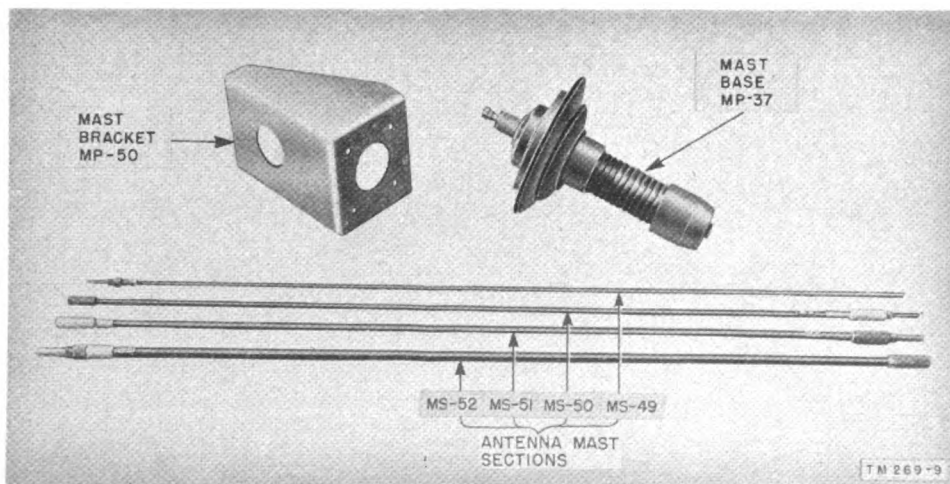
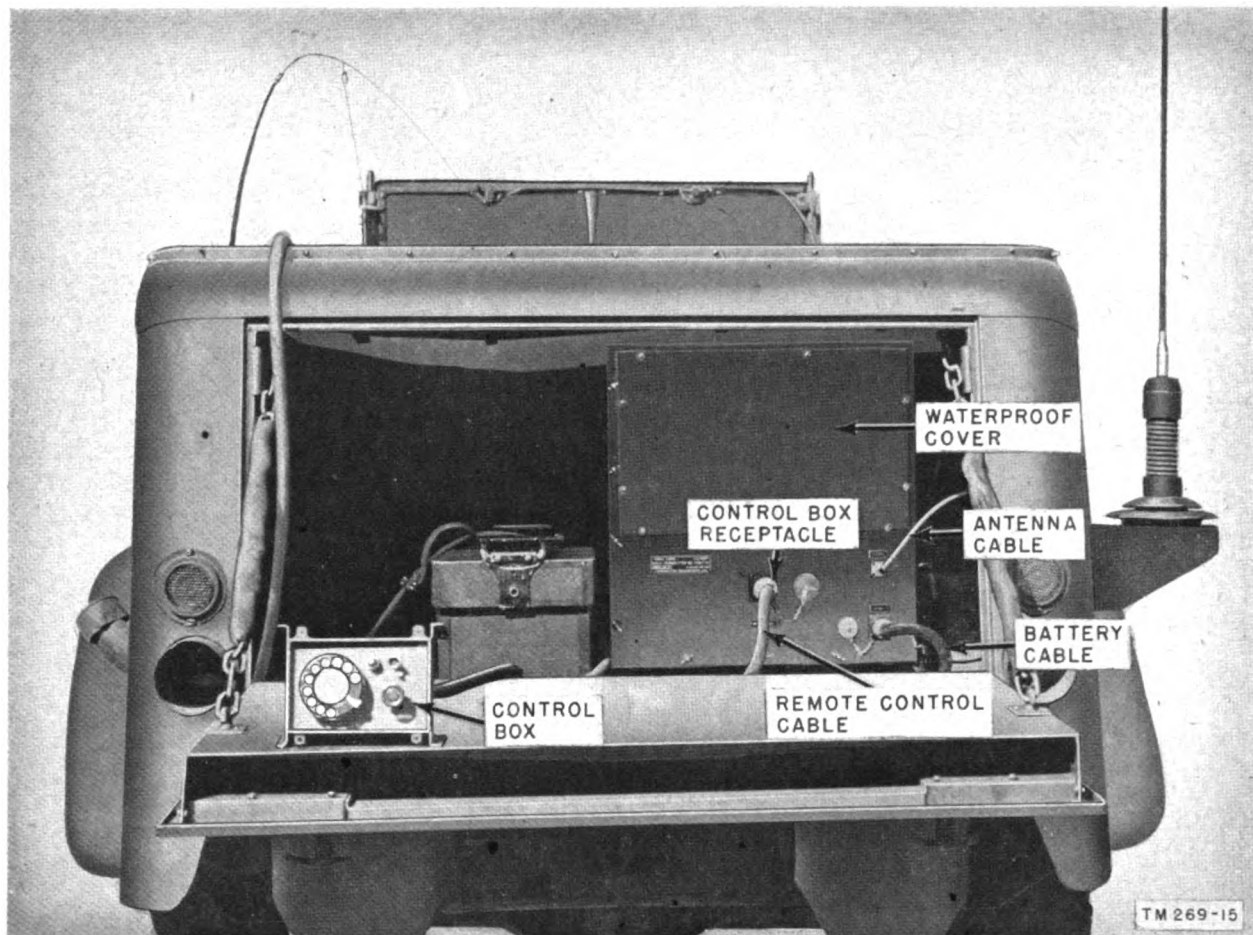
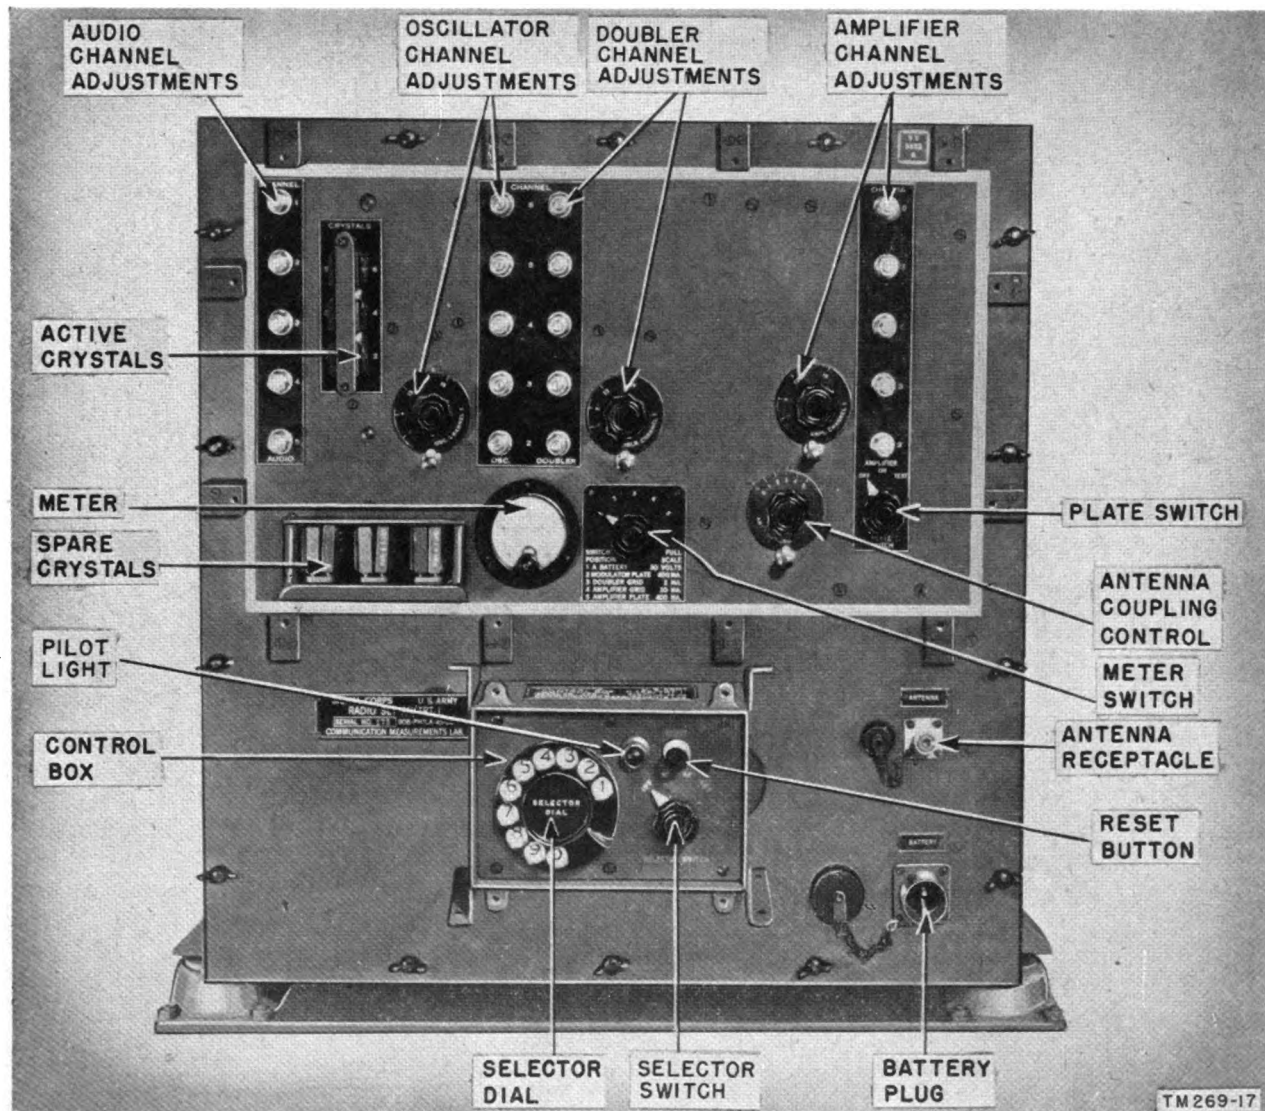

Figure 7. Antenna Assembly AS-149/TRT-1.
Figure 15. Transmitter, control box connected by remote cable.
Figure 17. Transmitter, controls identified.
- (3) The antenna (Antenna Assembly AS-149/TRT-1) is a vertical half-wave whip, specially designed for the 29.5- to 32-mc frequency channels. This antenna (fig. 7), which is packed in the spare parts box, is in four sections and includes a large porcelain insulator for support and a metal plate for mounting to the carrying vehicle. The antenna is connected to the transmitter by a single-conductor cable (fig. 4).
- (2) Unscrew the waterproof caps which cover the antenna, battery, and control box receptacles, and attach each cap to the dummy plug beside its receptacle (fig. 17). This prevents the retaining chains from being broken and the waterproof caps from becoming corroded or being lost.
- (3) Take the control box from the spare parts box and remove the waterproof cover. The control box may be used either on the transmitter or at a point
up to 25 feet away from the transmitter. If remote operation is desired, remove the remote control cable from the spare parts box and connect the cable between the control box and the transmitter receptacle marked CONTROL BOX (fig. 15). If local operation is desired, connect the control box directly to the transmitter (fig. 17).
b. ANTENNA INSTALLATION. Antenna Assembly AS-149/TRT-1 (fig. 7) consists of four mast (metal) sections, a porcelain insulator, and a mounting bracket. The component parts of the antenna are contained in the spare parts box (fig. 4).
- (1) Remove the four mast sections and the insulator-bracket assembly (fig. 7) from the spare parts box.
- (2) Screw the four mast sections one into the other to form the whip-type antenna. Match similar colors between antenna Mast Sections MS-52 and MS-51, MS-51 and MS-50, and MS-50 and MS-49.
- (3) In most installations the antenna can be mounted on a command car or truck as shown in figures 15 and 16. Fasten the insulator-bracket assembly (Mast Bracket MP-50) to the vehicle in such a manner that the antenna can be mounted in a vertical position.
Note. Six spare crystals, which duplicate the frequencies of the crystals in use, are mounted in dummy sockets on the front of the transmitter (fig. 17). They are to be used as replacements in case of damage to the crystals in use.
17). S-1 is located between the dynamotors on the horizontal chassis (fig. 44), and R-49 is located on the vertical mounting strip (fig. 46). The following chart gives the description and function of each transmitter control. The controls are pointed out in figures 17 and 43.
b. Throw the meter switch (fig. 17) to position 1 and check the input voltage. With full-scale deflection equal to 30 volts, the meter should read 0.4 for 12-volt operation and 0.8 for 24-volt operation.
c. Turn the control box SELECTOR SWITCH (fig. 17) to the RF position. This turns on the filaments of the transmitter tubes.
d. Press the RESET button (fig. 17) on the control box and then dial number 1 on the SELECTOR DIAL. This sets up r-f channel 1.
f. Loosen the dial lock and turn the ANT. COUPLING control (fig. 17) to 2 or 3.
g. Turn the PLATE SWITCH (fig. 17) to ON.
i. Loosen the dial lock and adjust the AMPL. CHANNEL 1 (amplifier plate) control (fig. 17) so that a minimum reading is obtained on the meter.